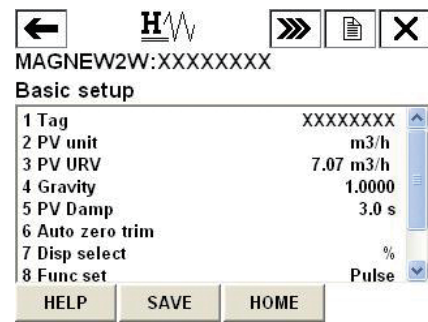

Fig. 7-5. Basic setup menu
2. Select "3. Basic setup" from the menu and then the basic setup menu will be displayed. (Fig. 7-5.)